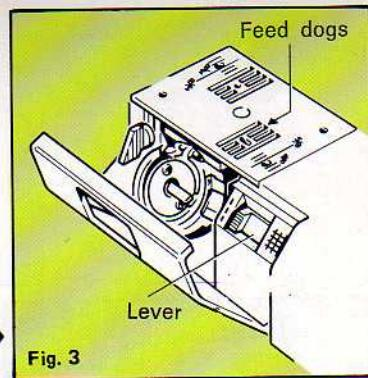
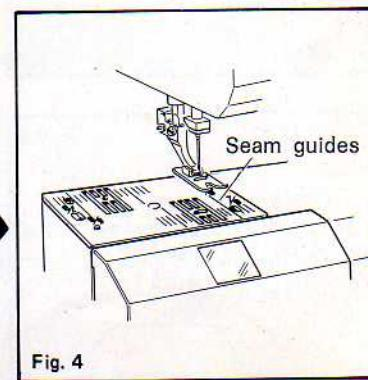

Fig. 3
Fig. 4
To change a presser foot, be sure presser foot is in up position (Fig. 3). Push small white lever away from you and slip foot off presser bar (Fig. 4).
Yes, you can feed the fabric by hand in some situations; for example, when darning or free hand designing. Just push lever (21) to drop the feed dogs. Then you can control the feeding by hand (see Fig. 3).
Seam guides are printed on both sides of the needleplate to help you line up the fabric and sew it straight. The standard seam width is $5/8"$, so these lines are emphasized. The front edge of the needleplate can serve as a cornering guide to help you turn a square corner $5/8"$ from the seam edge (see Fig. 4).